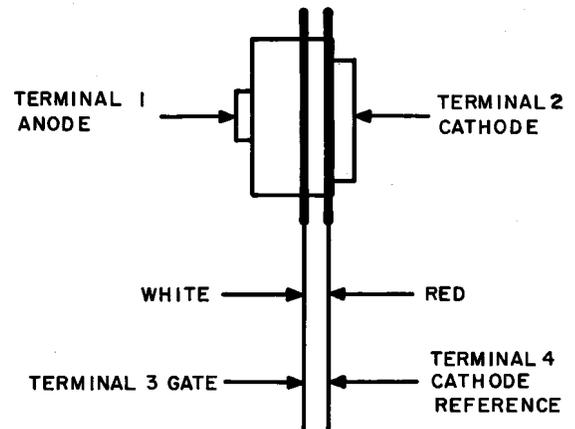

Fig. 9— Terminal Designations of Q1 and Q2 Thyristors
- (1) Isolate the Q1 thyristor cathode (terminal 2) or Q2 thyristor anode (terminal 1) from the circuit (see Fig. 9).